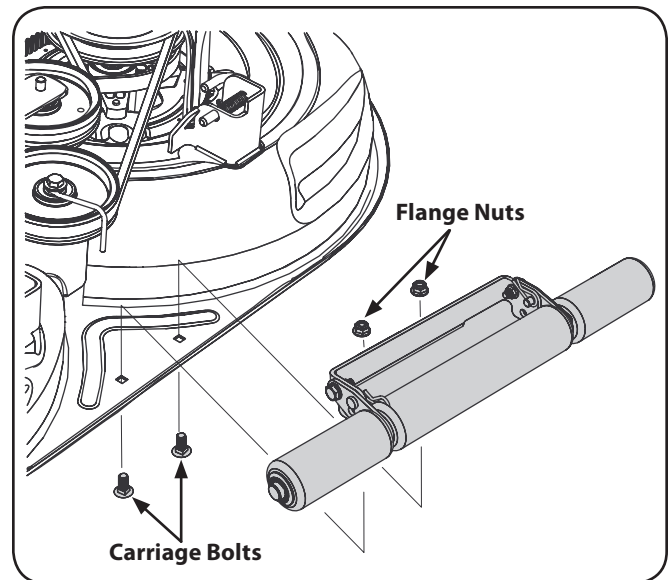

Figure 1-2
5. With the carriage bolts and flange nuts removed earlier, attach the Striper/Roller to the deck and tighten securely. See Fig. 1-2.